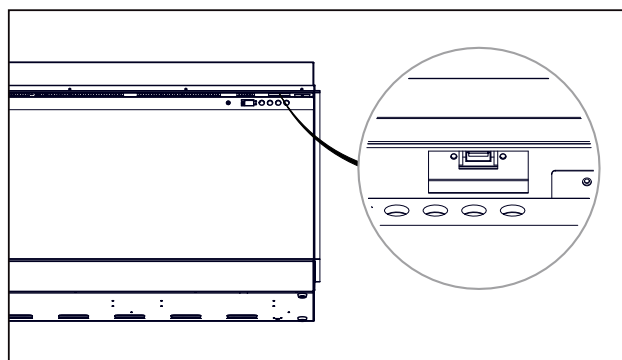

Fig. 35
1. Remove **USB stick** from your appliance. Located on top of control panel. (**Fig. 35**)